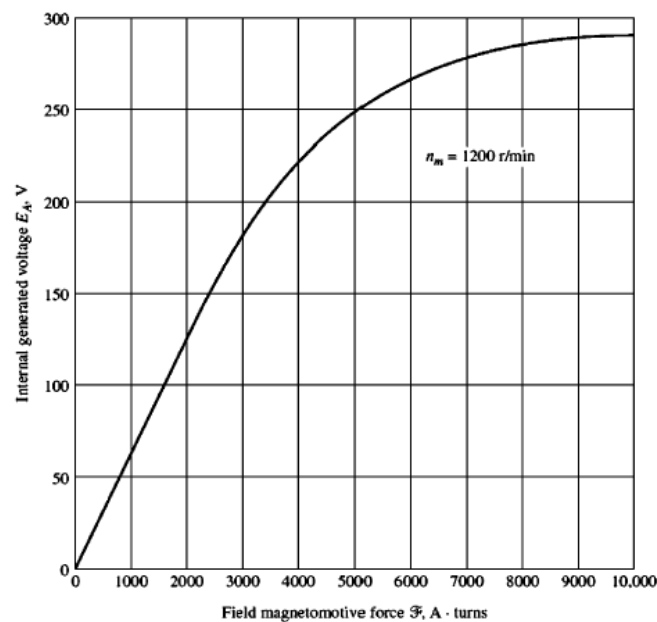

FIGURE 9-22
**Example 9.5** A 250-V series dc motor with compensating windings, and a total series resistance  $R_A + R_S$  of  $0.08\Omega$ . The series field consists of 25 turns per pole, with the magnetization curve shown in Figure 9-22.